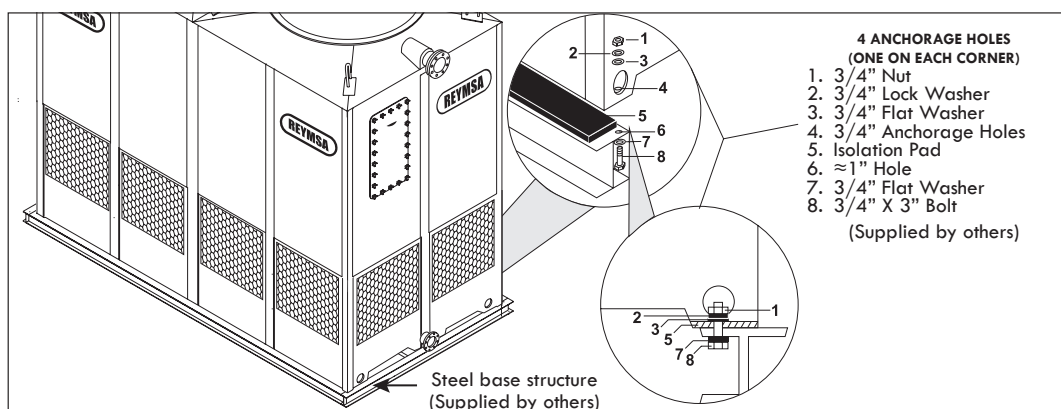

Figure A-39: Typical anchorage for a Double Fan Tower
- G. Place the Tower (unitized body & basin) on top of the isolation pad and the base structure; Secure it with the stainless steel nut and bolt sets (supplied by others) as shown on Figure A-39.